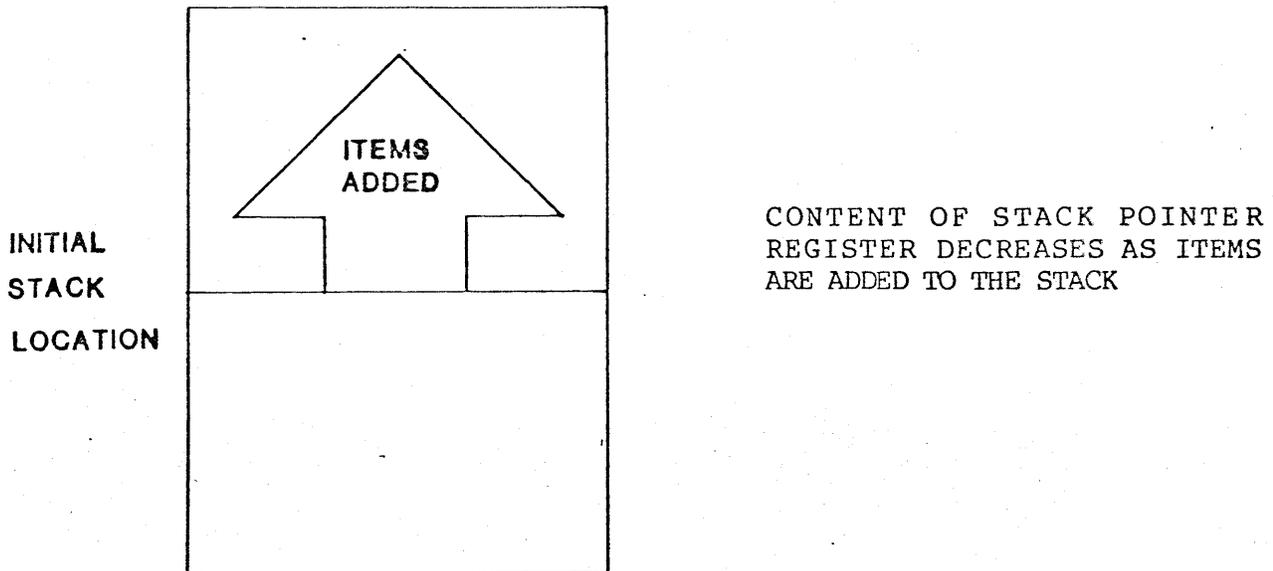

Figure 3B-3 THE STACK
A stack is an area of memory allocated for subroutine or interrupt linkage or for temporary storage. Various data bytes may be "pushed" onto the stack in sequential order and later "popped" or retrieved from the stack in reverse order. To keep track of the last byte pushed to the stack, a stack pointer is provided. The stack pointer (SP) is a 16-bit register which always stores the address of the last byte in the stack. As illustrated in Figure 3B-3, a stack starts at its initial location and expands linearly toward lower addresses as items are pushed to the stack. It is the programmer's responsibility to initiate the stack pointer register and reserve enough room for stacking purposes so that pushing data to the stack never destroys other data stored in memory. Any portion of the memory can be allocated for stack purposes.